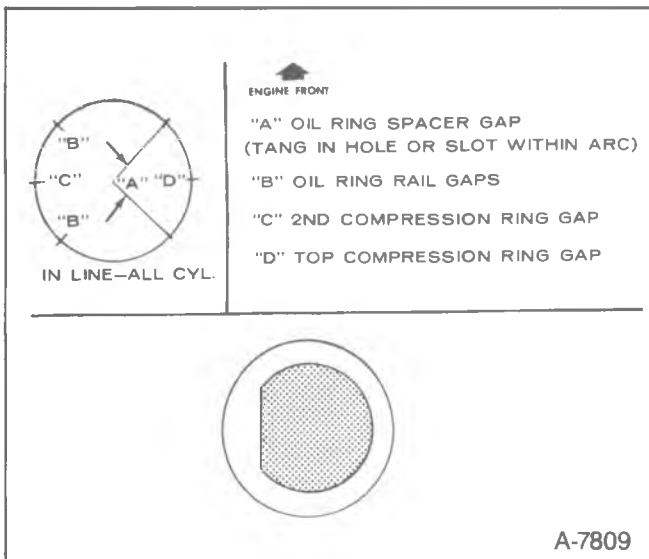

Figure 31—Piston Ring Gap Location
- Locate the piston ring end gaps as shown in figure 31. Lubricate the piston and rings with engine oil.